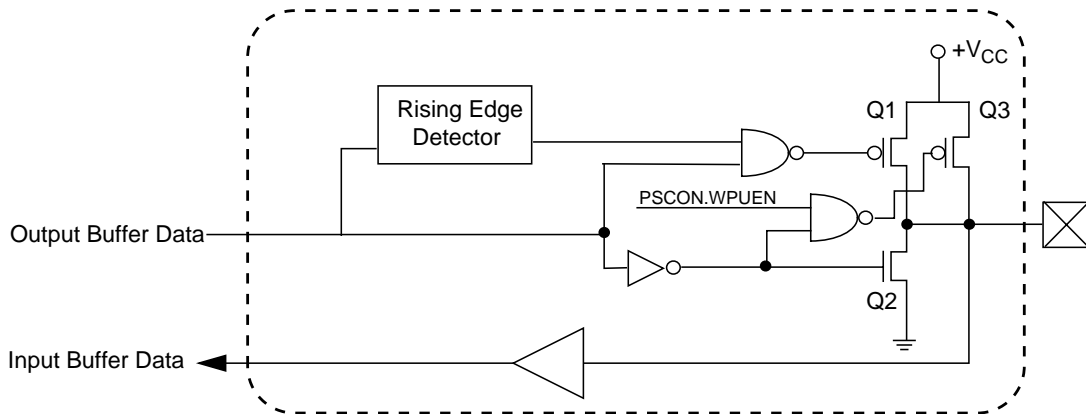

Figure 12-3. Quasi Bidirectional Buffer
The quasi-bidirectional drivers have an open drain output (Q2), an internal pull-up (Q3) and a low impedance pull-up(Q1). Q2 pulls the signal low whenever the output buffer data is "0". The weak pull-up (Q3) is active whenever the output buffer data is "1" and PSCON.WPUEN is set (1). The low impedance pull-up is active whenever the PC87570 changes the output data buffer from "0" to "1", thereby reducing the low to high transition time. The low impedance pull-up active duration is determined by PSCON.HDRV field. A schematic description of this output driver appears in Figure 12-3.